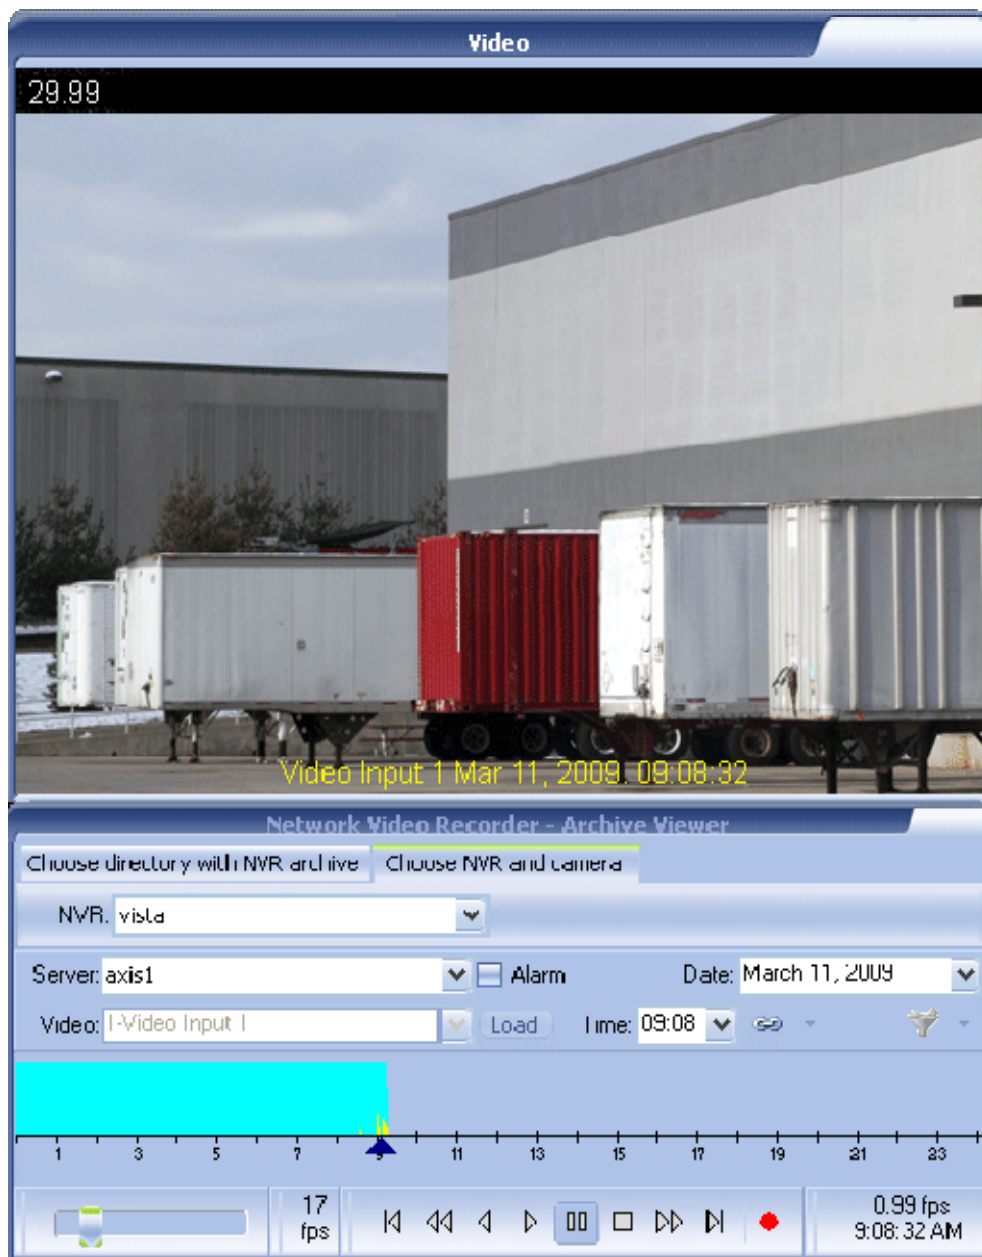

Fig 121. DETEXI Archive Viewer
1. Launch **Archive Viewer** (Fig 121).
1. Select a minute of interest from the **Time** list (*the position arrow moves to that time*) — the first frame of that minute video will be loaded; or drag and drop directly the position arrow on the time line (Fig 121).
Use playback control panel to play video forward and backward, stepping one frame forward and backward, and jumping to the beginning and end of the selected video (Fig 121).